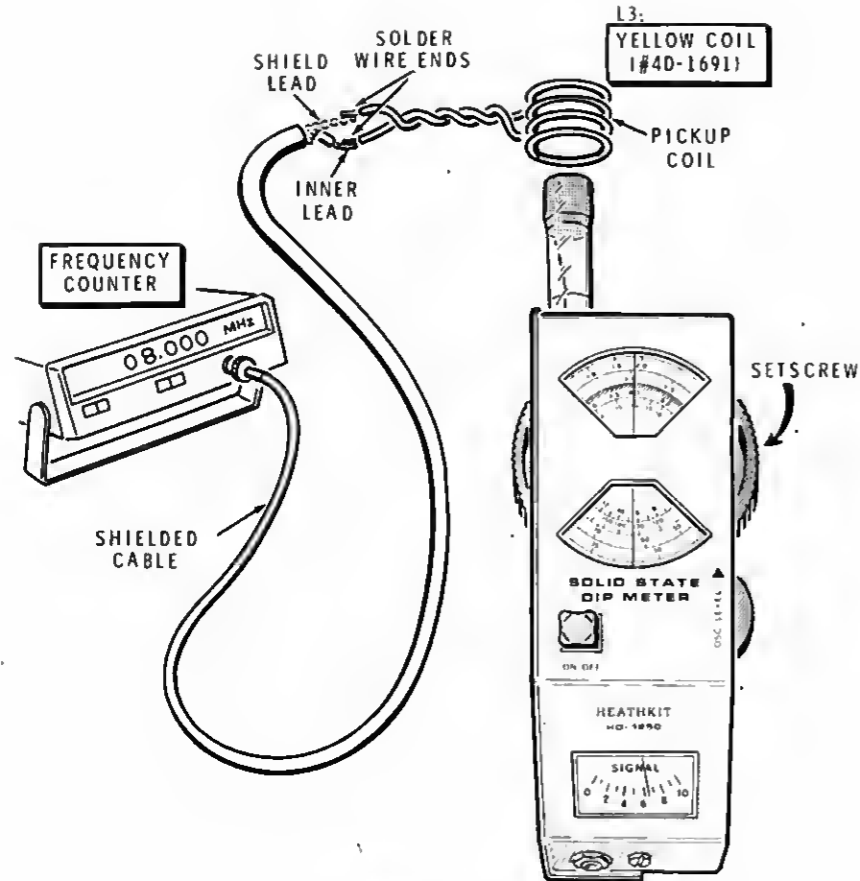

Figure 1-3
3. Connect one end of the wire to the inner lead of the shielded cable, and the other end of the wire to the shield lead of the shielded cable as shown in Figure 1-3.
() Refer to Figure 1-3 and position the coil of the Dip Meter close to (or through) the pickup coil. Turn the tuning dial of the Dip Meter until a frequency is indicated on the counter that appears on the dial scale. For example, if you selected the green coil, a convenient frequency might be 25.0 MHz.